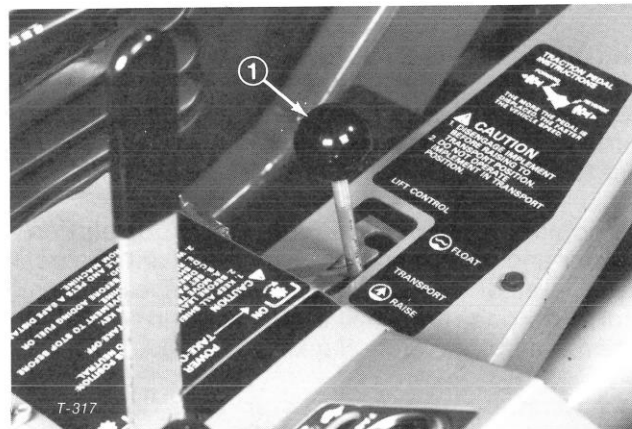
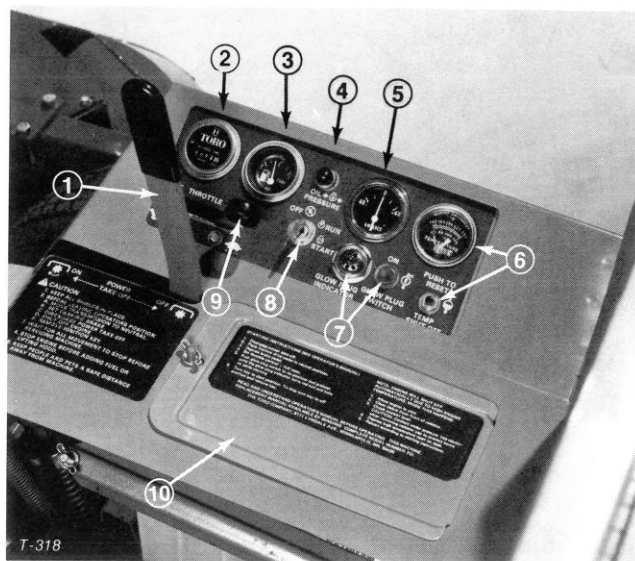

Figure 20
Figure 21
Lift Lever (Fig. 20) — The hydraulic lift lever has three positions: FLOAT, TRANSPORT and RAISE. To lower implement to the ground, move lift lever forward into notch, which is the FLOAT position. The FLOAT position is used for operation and also when machine is not in operation. To raise implement, pull lift lever backward to the RAISE position. After implement is raised, allow lift lever to move to the TRANSPORT position. Normally, implement should be raised when driving from one work area to another, except when descending steep slopes.
PTO Lever (Fig. 21) — The PTO lever has two positions: ON, engage and OFF, disengage. Slowly push PTO lever fully forward to ON position to start the implement or cutting unit blades. Slowly, pull lever backward to OFF position to stop implement operation. The only time PTO lever should be in the ON position is when implement or cutting unit is down in operating position.
Hour Meter (Fig. 21) — The hour meter registers accumulated hours of engine operation. Use the hour meter to determine intervals for service maintenance and lubrication.
Fuel Gauge (Fig. 21) — Indicates quantity of fuel remaining in fuel tank.
Oil Pressure Warning Light (Fig. 21) — The oil pressure warning light will glow and a buzzer will sound when oil pressure in engine drops below a safe level. If low oil pressure ever occurs, stop engine and determine the cause. Repair the damage before starting the engine again.
Ammeter (Fig. 21) — Ammeter shows charge rate of the battery by the alternator. When engine is running, there usually is a slight charge, unless engine is idling slowly. Needle will point to 0 when battery is fully charged. By contrast, alternator is not charging the battery when needle points to (-) negative side of ammeter, and if this happens, repair the charging system to prevent discharge of the battery.
Temperature Switch/Gauge and Reset Button (Fig. 21) — The temperature switch/gauge registers the temperature of the coolant in the cooling system. If temperature of coolant gets too high the engine will shut off automatically. When this happens, rotate ignition key to OFF. Automatic shut-off of the engine usually results from debris on front of screen or radiator, which reduces air flow. After cleaning outside of screen and radiator or repairing some other damage, press the reset button and start the engine.
Glow Plug Switch and Indicator (Fig. 21) — Use to preheat engine cylinders before and during starting procedures. Push switch lever upward and hold while watching indicator. Indicator will glow red when sufficiently heated. Length of time necessary to preheat cylinders should be determined by atmospheric temperature; refer to Starting/Stopping Engine, page 19.
Key Switch (Fig. 21) — The key switch, which is used to start and stop the engine, has three positions: OFF, RUN and START. Rotate key clockwise to the START position to engage starter motor. When engine starts, release key and it will move automatically to the ON position. To shut engine off, rotate key counterclockwise to the OFF position.
Throttle Control (Fig. 21) — Throttle is used to operate engine at various speeds. Moving throttle forward increases engine speed — FAST; backward decreases engine speed — SLOW. The throttle regulates the speed of the cutter blades or other implement components and, in conjunction with traction pedal, controls ground speed of the traction unit.
A 40 amp circuit breaker is also incorporated to protect the entire wiring circuit. A reset button is located on the lower side of the panel, which can be reached after removal of the battery cover (Fig. 21, 23). The button should be depressed if a total loss of all electrical functions should occur. However, the electrical system should first be checked to ascertain the reason for the malfunction; refer to Electrical Troubleshooting, pages 24-29.
1. Ensure parking brake is set, PTO lever is in OFF position (Fig. 21) and lift lever is in TRANS-PORT or FLOAT position (Fig. 20). Remove foot from traction pedal and insure it is in neutral.
2. Move throttle control (Fig. 21) to full FAST position.
5. Turn key in key switch to START position (Fig. 21). Release key immediately when engine starts and allow it to return to RUN position. Move throttle control to SLOW position.